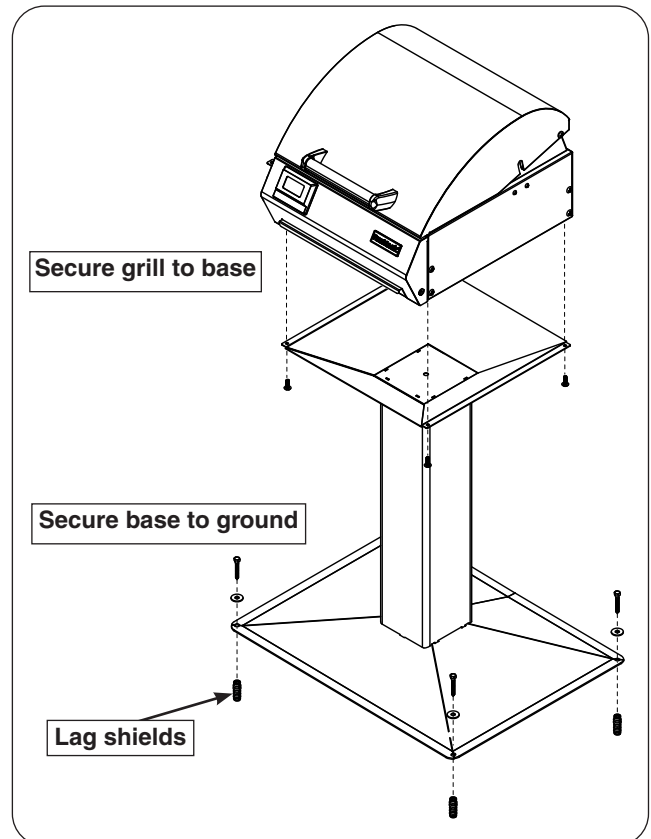

Fig. 12-3 Post model installation
3. Align the electric grill onto the top of the post assembly. Using the same four screws, fasten the electric grill to the post assembly. See Fig. 12-3.
1. Locate the patio mount base in the planned grill location and mark the 4 holes. Drill the marked holes to a 1/2" diameter x 1 1/2" depth. Insert the lag shields (see Fig. 12-3) into the holes, being sure that they are flush with the ground.
2. Align the holes on the patio mount base over the lag shields in the ground. Secure the base with the lag screws (see Fig. 12-3) using a 7/16" nut driver.